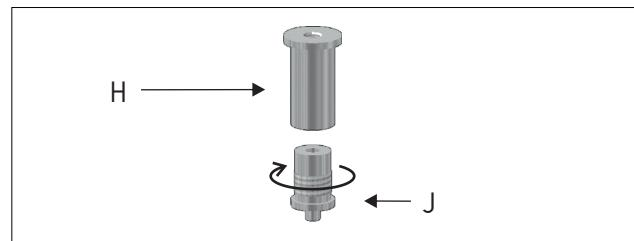

Figure 6
6 - Unscrew the tensors (H) from the grippers supports (J). Figure 6.